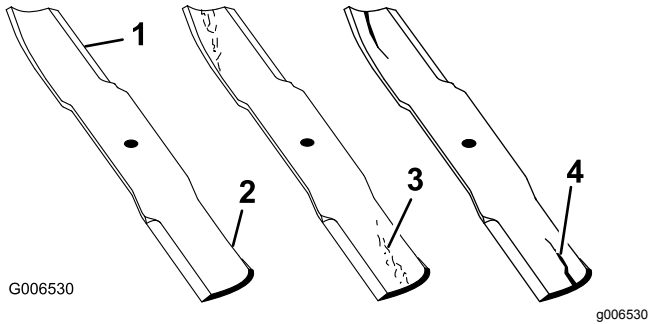

Figure 106
1. Inspect the cutting edges (Figure 106).
4. If you notice any cracks, wear, or a slot forming in this area, immediately install a new blade (Figure 106).